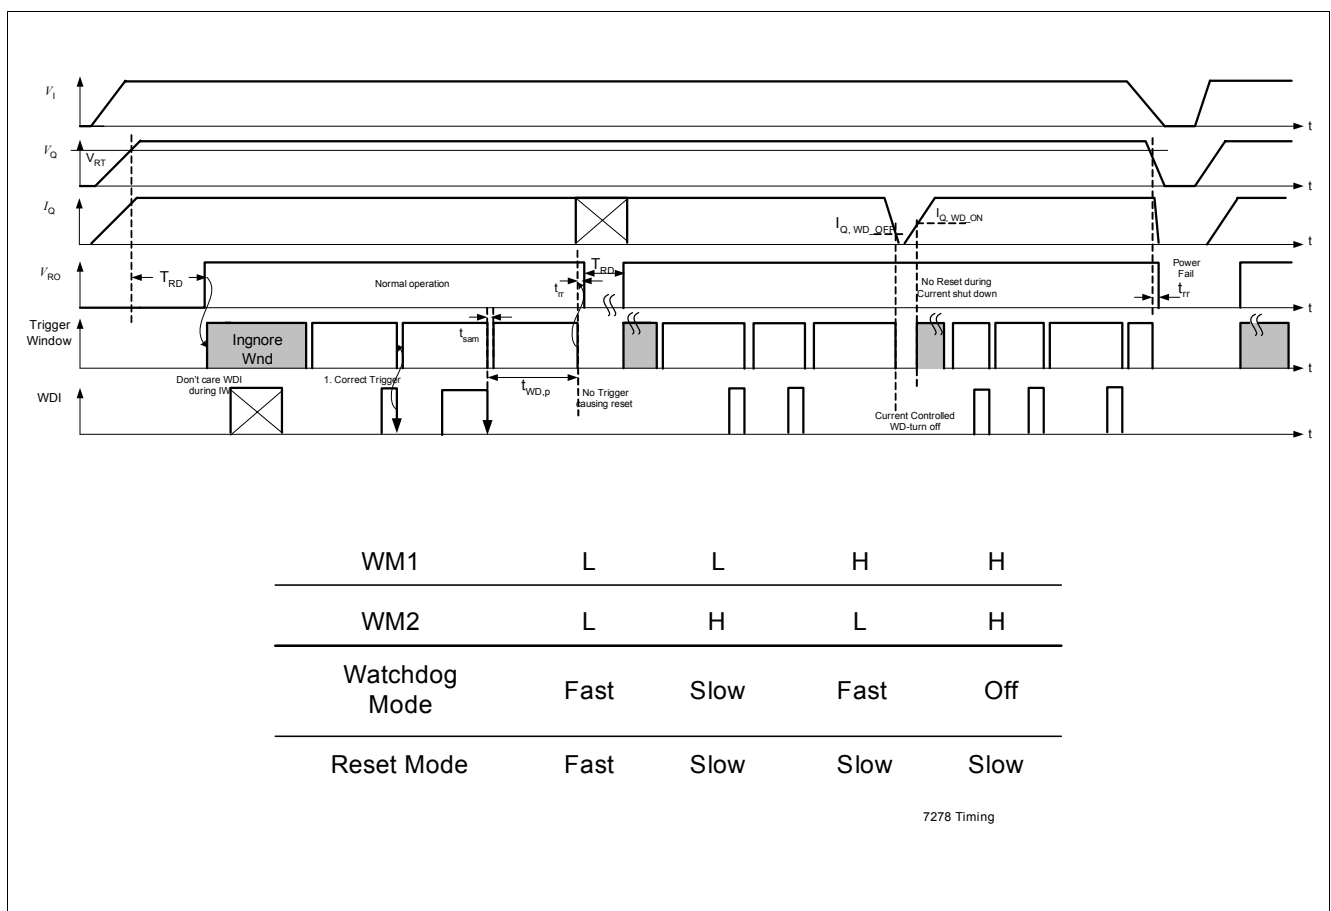

Figure 5 Watchdog Timing Diagram, Watchdog and Reset Modes
The watchdog uses a fraction of the charge pump oscillator's clock signal as timebase. The watchdog timebase can be adjusted using the pins WM1 and WM2 (see **Figure 5**). The watchdog can be turned off setting WM1 and WM2 to high level. The timing values used in this text refer to typ. values with WM1 and WM2 connected to GND (fast watchdog and reset timing).
Figure 5 shows the state diagram of the watchdog (WD) and the mode selection. After power-on, the reset output signal at the RO pin (microcontroller reset) is kept LOW for the reset delay time T_{RD} of typ. 16 ms. With the LOW to HIGH transition of the signal at RO the device starts the ignore window time t_{CW} (32 ms). Next the WD starts the Watchdog Period (time frame within a trigger at WDI must occur). From now on the timing of the signal on WDI from the micro controller must correspond the WD-Period $t_{WD,p}$ correspondent the electrical characteristics and based on the setting on the WM pins. A Re-Trigger of the WD-Period is done with a HIGH-to-LOW Transient at the WDI-pin within the set $t_{WD,p}$.